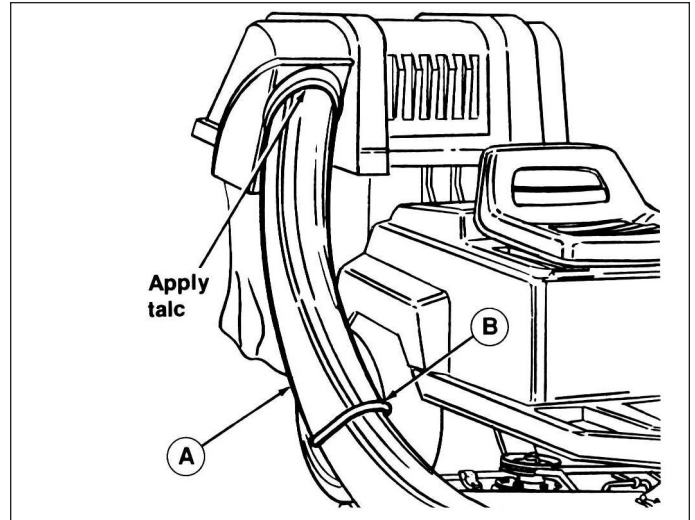

Figure 19.
7. Apply dry talc powder to rubber seal at cover opening. Install tube (A, figure 19) as far as possible into opening to clear adapter and install over adapter.